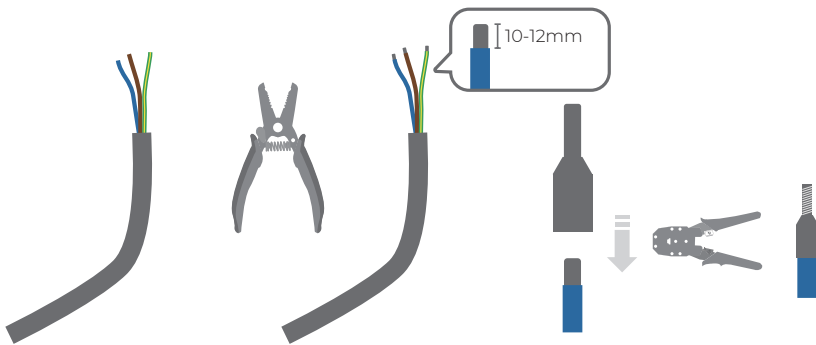

Fig. 5-5
4. Use a wire stripper to remove 10~12 mm of insulation from the prepared power wires, and crimp the exposed wire conductors with crimping pliers. (See Fig. 5-5)